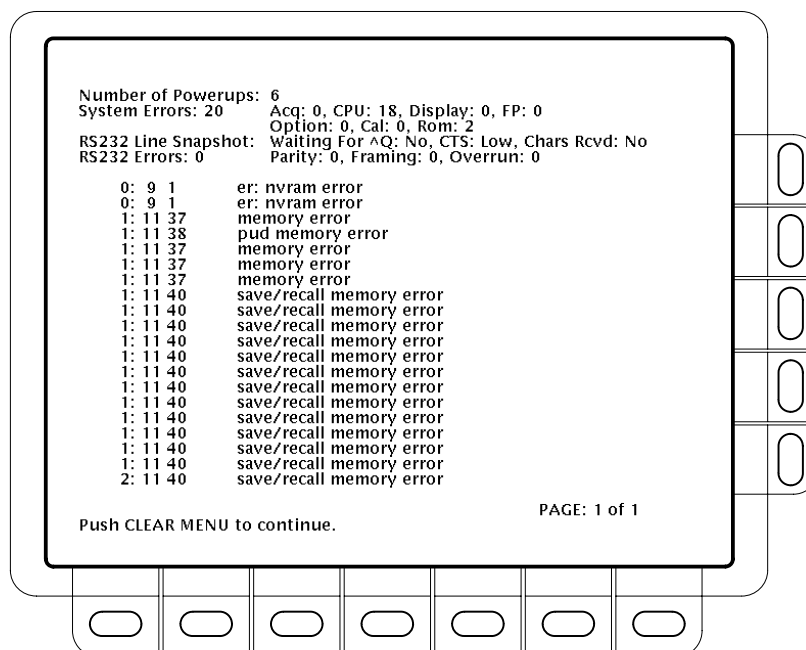

Figure 6–17: The error log
8. Press the side menu button **Display Log** to display the diagnostics error log. The error log contains summary data gathered over the life of the oscilloscope and descriptions of the last 200 errors encountered (see Figure 6–17). The last error in the list is the most recent and/or most important; record this information and continue on to the *Troubleshooting Procedure* in the next section to verify the failure and pinpoint the faulty module.